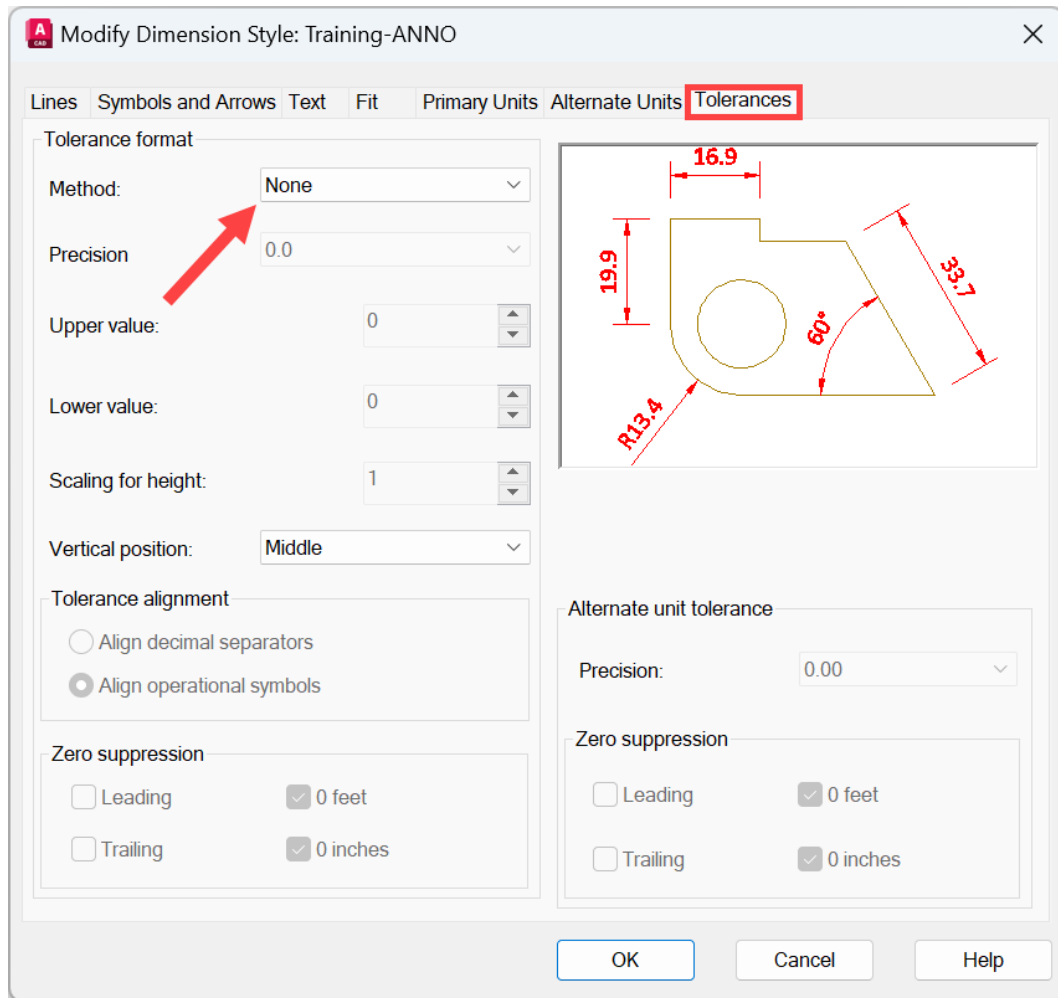

Figure 7.17: The Tolerances tab
20. Ensure the **Method** option under **Tolerance format** is set to **None**, as shown in *Figure 7.17*. Also, ensure that all other settings in the **Tolerances** tab are set as per *Figure 7.17*. You are then ensuring that no tolerances are used in your dimension style.